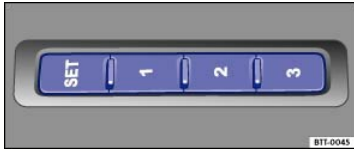

Fig. 49 Memory buttons on the outer side of the driver seat.
- Press SET for at least 1 second ⇒ Fig. 49.
- Press and hold a memory button ⇒ Fig. 49 until memory position is reached.